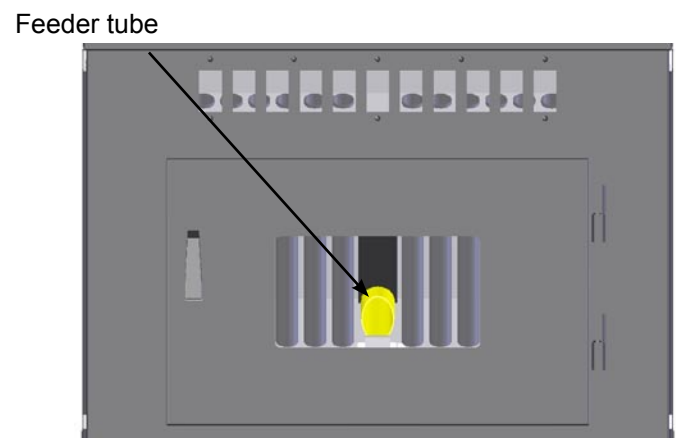

FIGURE 31
3. Using a screw driver or small brush, scrape the inside of the feeder tube. See Figure 31.